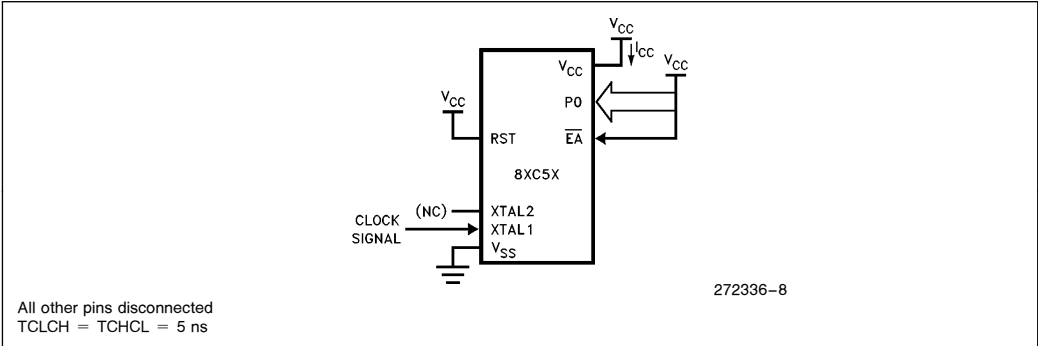

Figure 6.  $I_{CC}$  Test Condition, Active Mode
- See Figures 6–9 for test conditions. Minimum  $V_{CC}$  for Power Down is 2V.